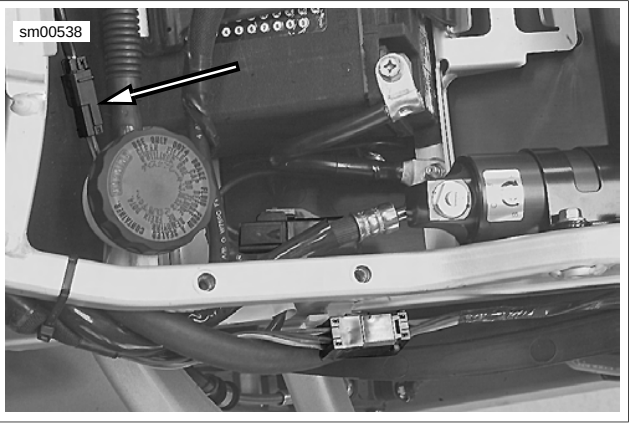

Figure 2-58. Brake Line Switch Connector: Firebolt
- 3. See Figure 2-58. Disconnect brake light connector from under seat in the front of the battery.
4. See Figure 2-58. Connect brake light switch connector beneath seat.